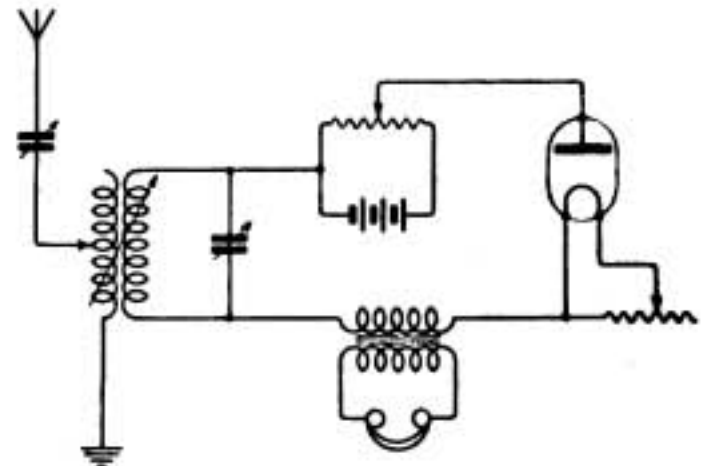

Fig. 2.
(1) A suitable circuit is shown in Fig. 2, page 811, March 18th issue, together with suitable values for the parts. The chief reason we do not recommend
**"BELL RINGER"** (Walsall) asks (1) Correct H.T. for an "R" valve. (2) Criticism of a circuit. (3) If it will receive telephony. (4) If an aerial with four wires 20' long, placed 2' apart would be suitable.
(1) About 60 volts. (2) Rearrange the circuit as in Fig. 2, page 140, April 29th issue. (3) Yes. (4) Aerial is very poor for a single valve set. A greater length should be used if at all possible.
The Fleming valve which you possess is a rectifier only. We should, however, recommend you to purchase a three-electrode valve, which will enable you to receive C.W. as well as giving much stronger signals. If you retain the Fleming valve, connections should be as in diagram (Fig. 2). Reaction cannot be used with these valves.